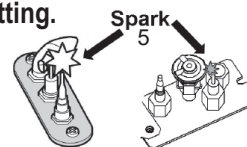

Fig 3
2. **SET ON/OFF SWITCH (1) TO "OFF" POSITION.**
- Wait five (5) minutes to clear out any gas, then smell for gas, including near the floor. If you smell gas, **STOP!** Follow "B" in the safety information above on this label. If you don't smell gas, go to the next step.
3. **AUTOMATIC IGNITION (fig. 1):** Locate the pilot (fig 3.) inside of firebox.
- ON/OFF switch (1) in ON position, MAN-knob (2) in ON position; set Flame Adjustment knob (3) to lowest setting (∩)
- When the pilot is lit, the Flame Adjustment knob (3) will automatically rotate to the highest setting.
4. **MANUAL IGNITION (fig. 2):** With the window off, locate pilot (fig 3.) inside firebox;
- ON/OFF switch (1) in ON position, MAN-knob (2) in MAN position;
- Set Flame Adjustment knob (3) to the lowest setting (∩);
- Push down the metallic core (4) with a pen or similar instrument; this will establish the pilot gas flow; Light gas at the pilot (5) with a match;
- Continue holding down metal core (4) for about 10 seconds; after release, pilot should remain lit;
- If the pilot will not stay lit after several tries, turn the gas control knob (3) to "OFF" (∩) and call your local service technician or gas supplier.
- Reinstall the window and set the MAN-knob (2) to "ON"; turn Flame Adjustment knob (3) up (∩) or down manually or use the up/down 'flame' buttons on the remote control handset to adjust the flame height.